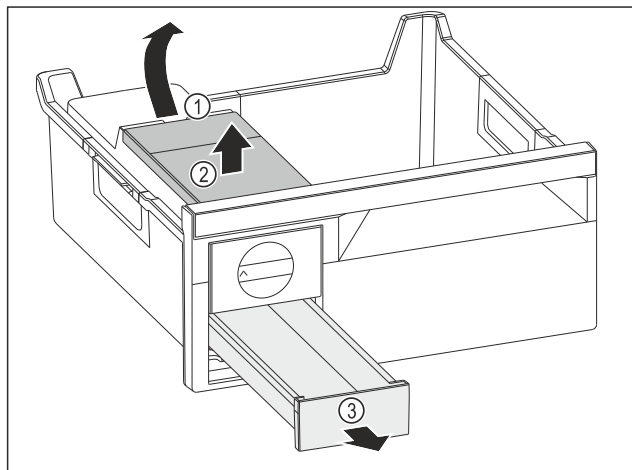

Fig. 104
- Removing the water tank: Lift the water tank by the recess Fig. 104 (1).
- Remove the water tank Fig. 104 (2) upwards.
- Remove the ice cube drawer Fig. 104 (3) to the front.